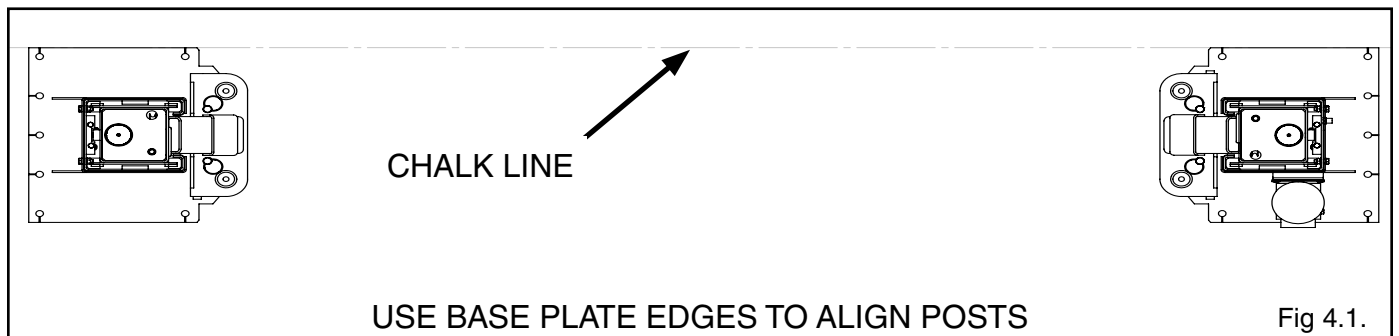

Fig 4.1.
4. Once a location is determined, use chalk line to layout an alignment line for the Post locations. Keep all dimensions square within 1/8" (3 mm) or malfunctioning of the lift can occur. (See Fig 4.1)